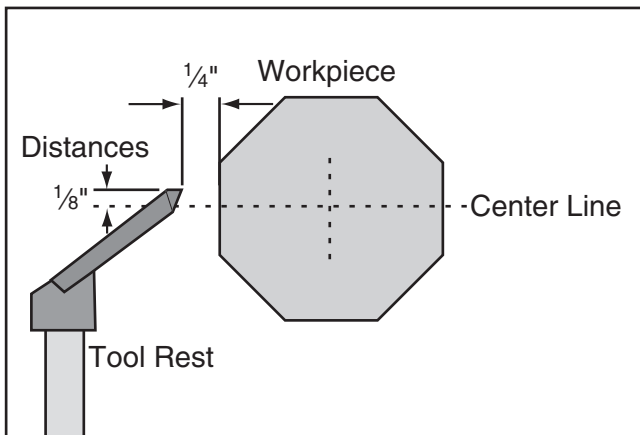

Figure 21. Tool rest position relative to workpiece.
2. Position the tool rest approximately $\frac{1}{4}$ " away from the workpiece and approximately $\frac{1}{8}$ " above the workpiece center line, as shown in **Figure 21**.